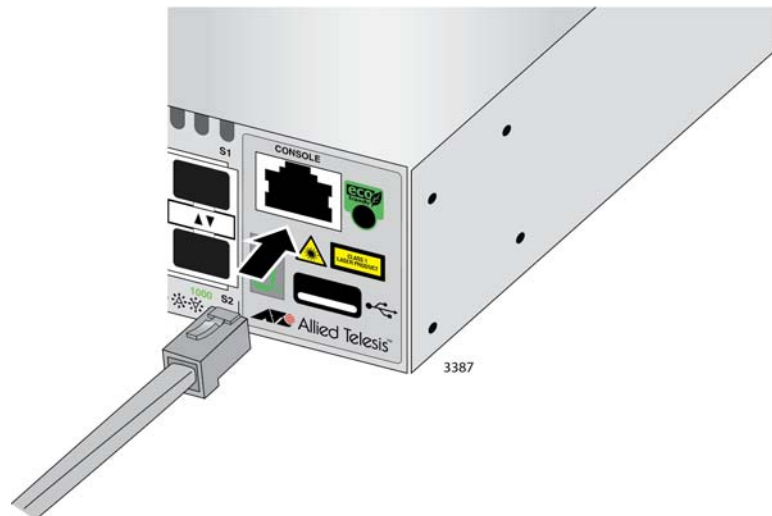

Figure 29. Connecting the Management Cable to the Console Port
1. Connect the RJ-45 connector on the management cable to the Console port on the front panel of the switch, as shown in Figure 29.